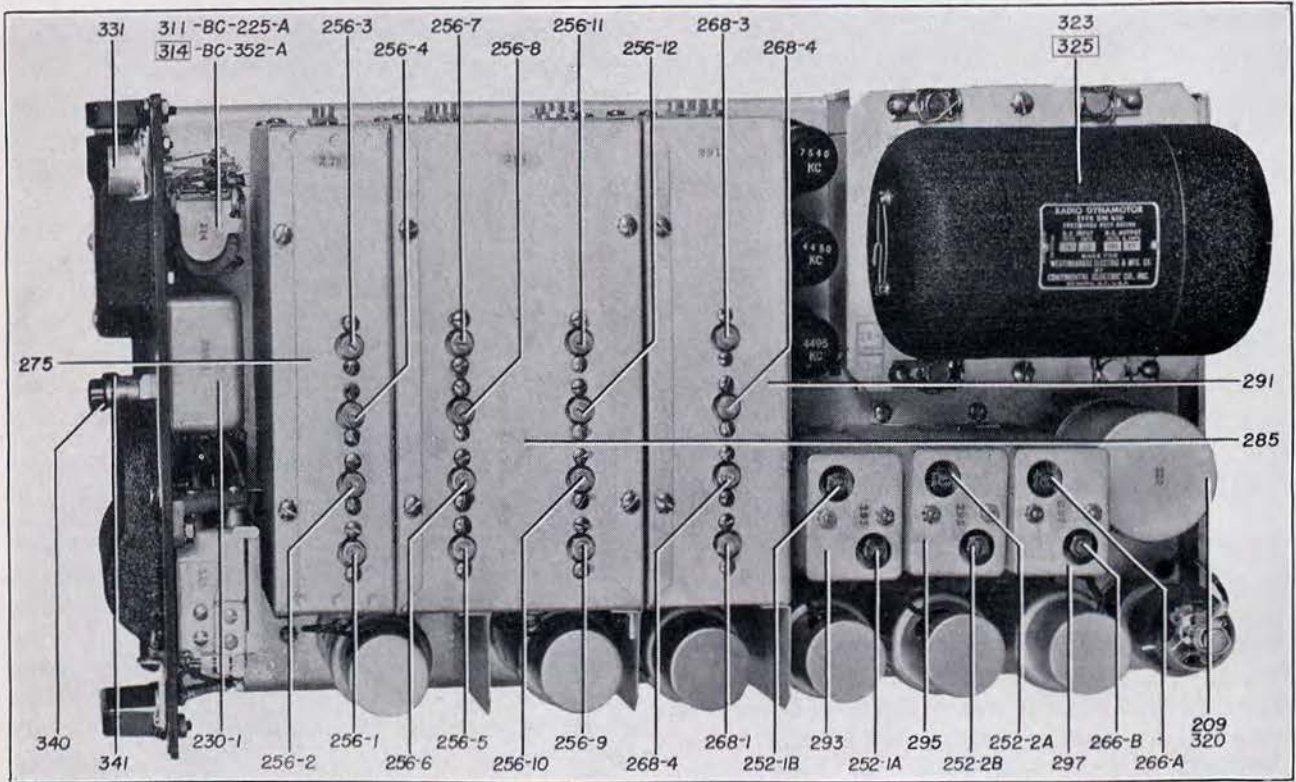

FIGURE 19—RADIO RECEIVER BC-225-A OR BC-352-A, TOP VIEW, REMOVED FROM CABINET
1.5.5.3 Location of Principal Components:—The component parts of the receiver are located as shown in Figures 19 to 24, inclusive, and as described below: